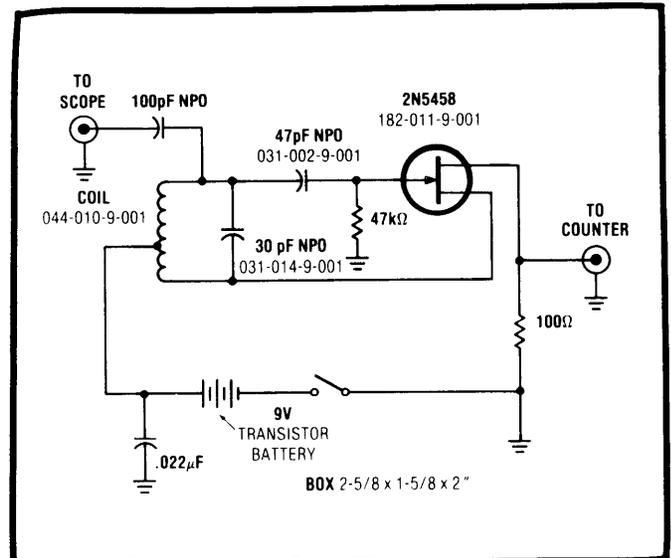
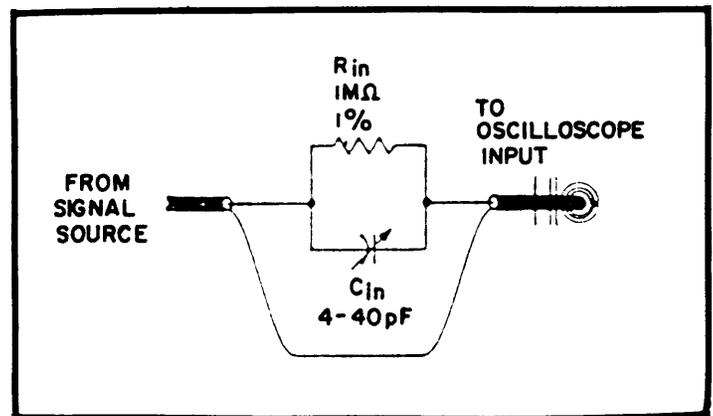

Fig. 18. Schematic of Test Oscillator for Input Capacitance Adjustment.
Fig. 19. Network for Alternate Input Capacitance Adjustment.
Fabricated RF Oscillator (Fig. 18).
The object of this procedure is to equalize the input capacitance for all sections of the vertical attenuator. This is accomplished by first using the non-adjustable capacitance of the input FETs on the non-attenuated range (5 mV/div) as reference, then trimming the input capacitor of each attenuator section to match. A measurement corresponding to the reference capacitance is established by connecting it as the tuning capacitor of a test oscillator (Fig. 18). This causes the test oscillator to operate at a reference frequency. The reference frequency is measured on a fre-
1. Build the test oscillator shown in Fig. 18 and connect it to the frequency counter and the CH A input of the oscilloscope as shown. No input signal is applied during this procedure
An alternate method of adjusting input capacitance, although not as accurate as the previous method, may be used if the test oscillator of Fig. 18 is not available. This method requires the simpler network shown in Fig. 19. This network is essentially a 2:1 probe, since the 1 MΩ resistance of the network and the 1 MΩ input resistance of the vertical attenuator form a voltage divider. A 10:1 probe could also be used, except that a square wave of at least 100 volts p-p (not commonly available) would be required for adjustment of the 5 V/div attenuator setting.
1. Connect the network of Fig. 19 between a square wave generator and the CH A INPUT of the oscilloscope.